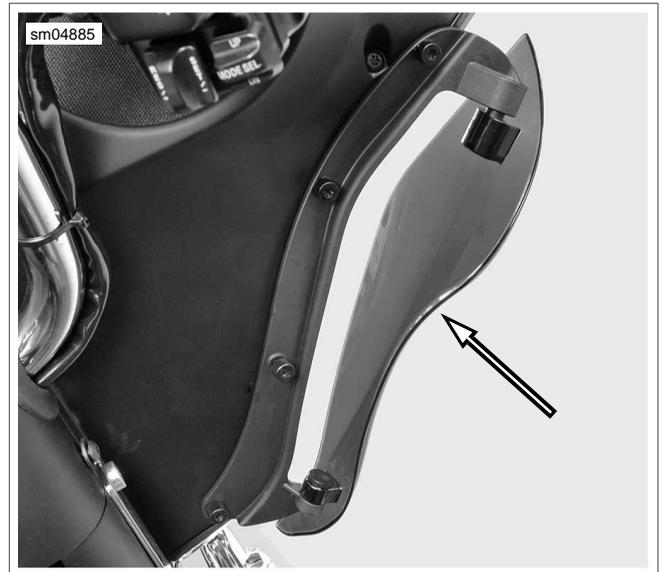

Figure 2-141. Air Deflector (Adjustable)
1. Remove four screws to release air deflector at side of inner fairing. See Figure 2-141.